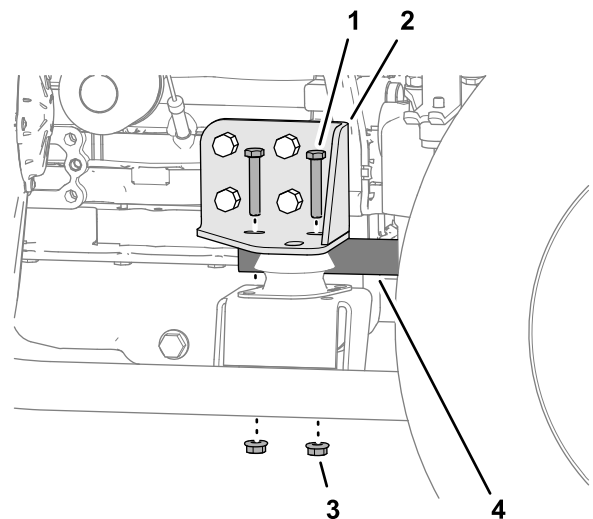

Figure 91
6. Remove the 2 bolts and 2 nuts that secure the anti-rotation tube to the right engine mount (Figure 91).